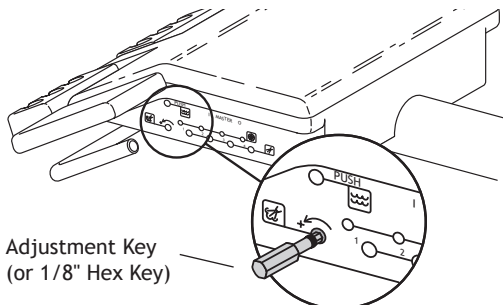

Figure 6. Coolant Air Flow Control
The coolant air flow control is used to adjust the coolant air flow to all handpieces (see Figure 6).
*You will need an adjustment key (see Figure 6) or a 1/8" hex key to complete this adjustment.*
2. Locate the coolant air control (see Figure 6).